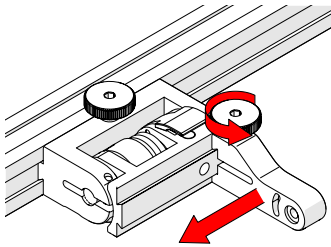

Fig. 82 - Position swing arm
5. Loosen the swing arm knob and slide the swing arm to the opposite end of the probe holder bracket (Fig. 82) or the preferred position. Tighten the swing arm knob.